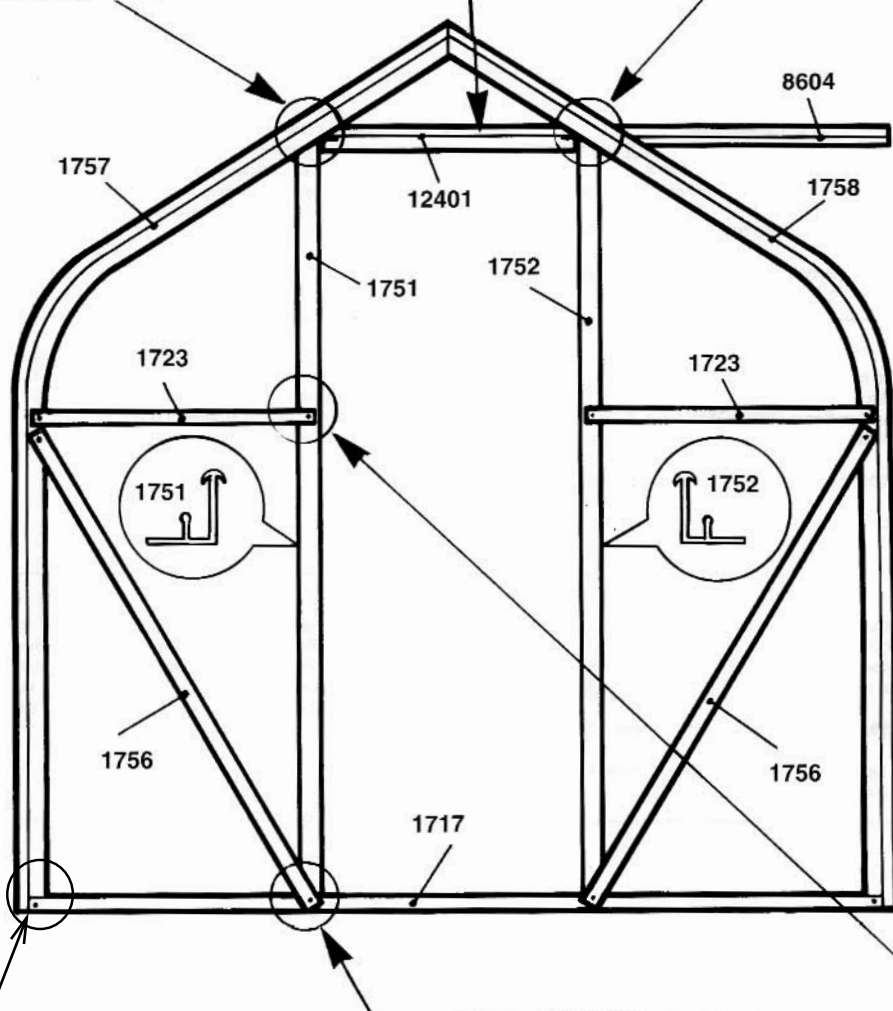

fig 5
- Lay out the coded parts as before as in **Fig 5** and bolt them together loosely in the same order as the plain gable end.